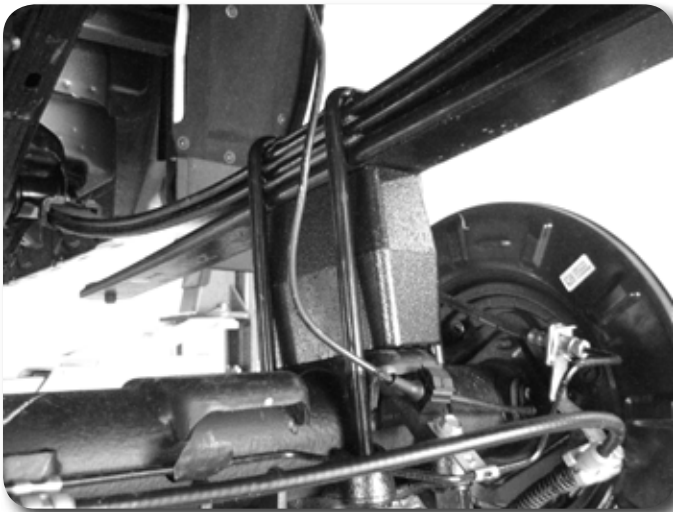

Figure 45
10. Using the support jack, raise the axle so that the axle, spring and block are all touching. Install the new provided u-bolts, nuts and washers allow with the factory u-bolt plate **Figure 45**. Snug u-bolts but do not tighten.